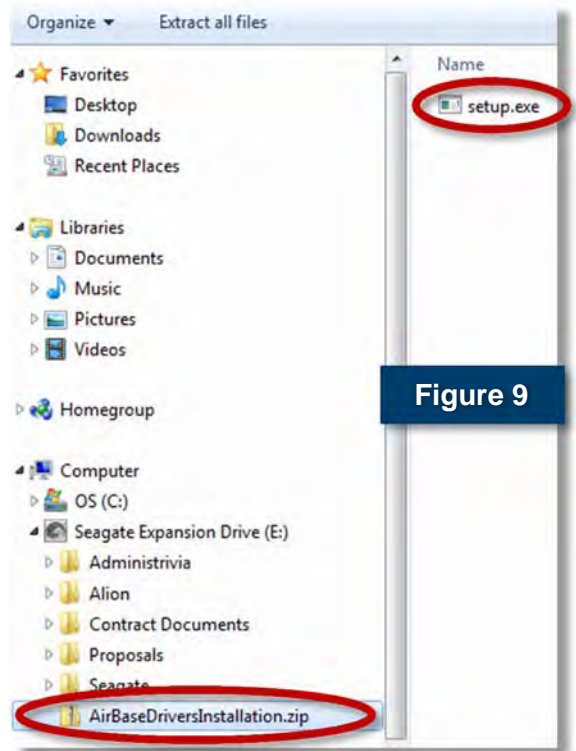

Figure 9
3. Open the **AirBaseDriversInstallation.zip** file created during the download, and double click **'setup.exe'** to launch the installation wizard (Figure 9).